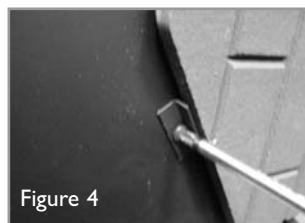
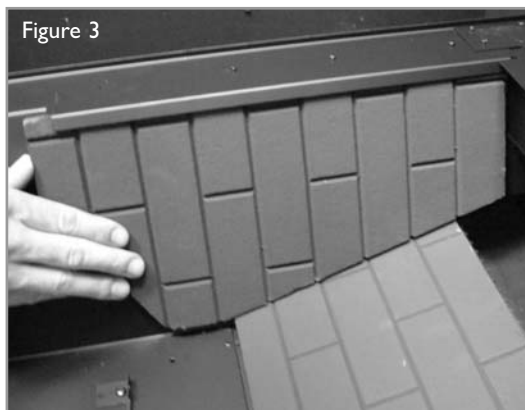

Figure 4
Figure 3
**Full depth models only :** The three radiant panels may now be fitted inside the firebox. Select the plain or patterned side of the panels and insert as follows; Lay the firebox on it's back. Lay the tapered panel onto the rear face of the firebox. The side panels should be fitted by inserting their front edges into the pre-fitted retaining brackets on the front face of the firebox. Gently align the side panels with the sides of the firebox, over the back panel already in place as shown in figure 3. Make sure that the side panels are pushed **up** firmly to the roof of the firebox, and **back** firmly to retain the rear panel. Make small adjustments to line up the mortar lines if required. Clamp the side panel using the 'L' shaped brackets and screws provided as shown in figure 4. The screws should locate into the holes in the sides of the firebox.